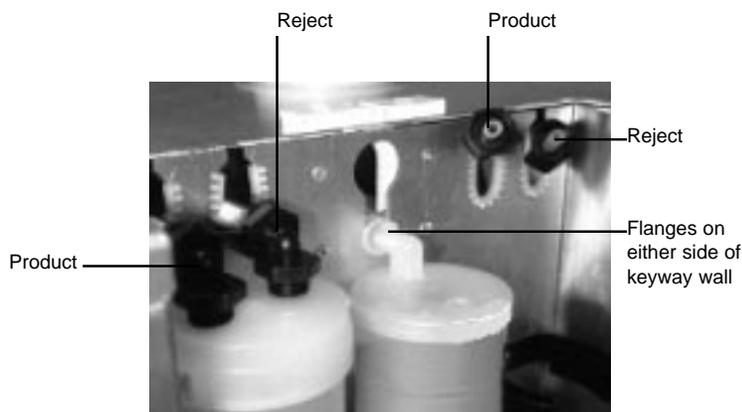

Figure 7 Prefilter and Membrane Connections
3. Insert the upper end cap into upper center position until it bottoms out in the connector. (The upper end cap is the one with the right angle turn and the two flanges.) The two flanges on the end cap slide down on each side of the keyway wall. (See Figure 7.)